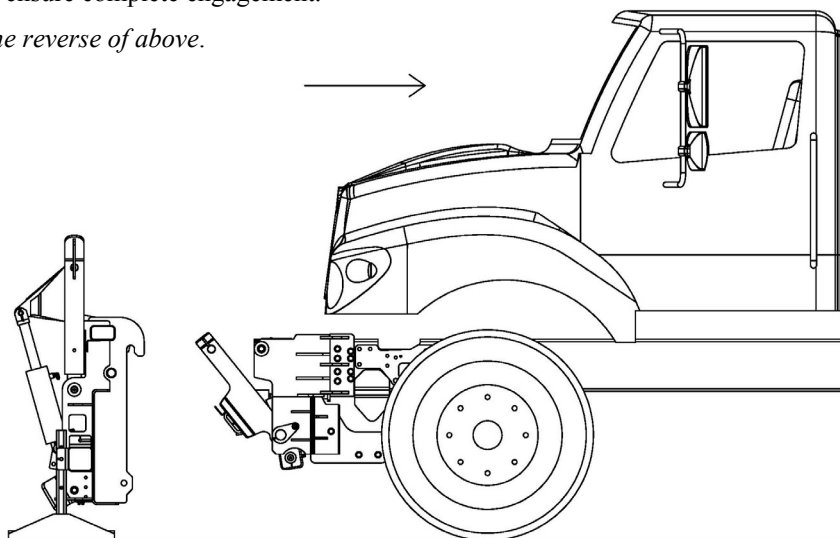

Figure 6: Back away from Push Plate
10. Back away from the front hitch and wing. (See Figure 6)